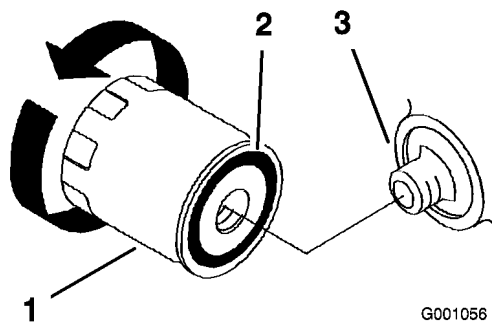

Figure 41
2. Remove the old filter and wipe the filter adapter gasket surface (Figure 41).
4. Apply a thin coat of new oil to the rubber gasket on the replacement filter (Figure 41).
5. Install the replacement oil filter to the filter adapter. Turn the oil filter clockwise until the rubber gasket contacts the filter adapter, then tighten the filter an additional 1/2 turn (Figure 41).